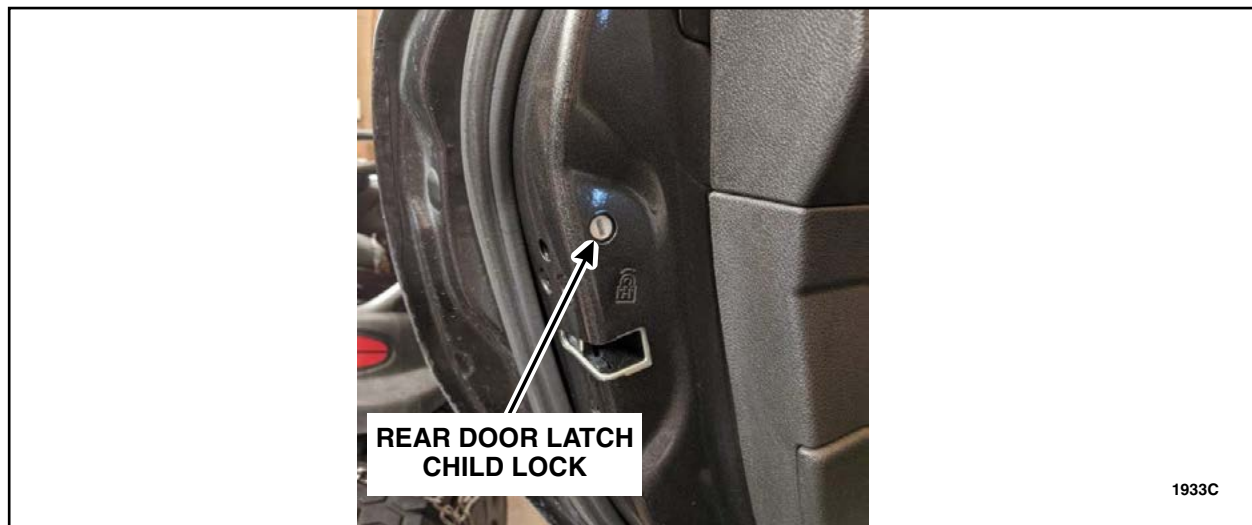

FIGURE 4
3. Verify the presence of a child lock in both rear doors. See Figure 4.